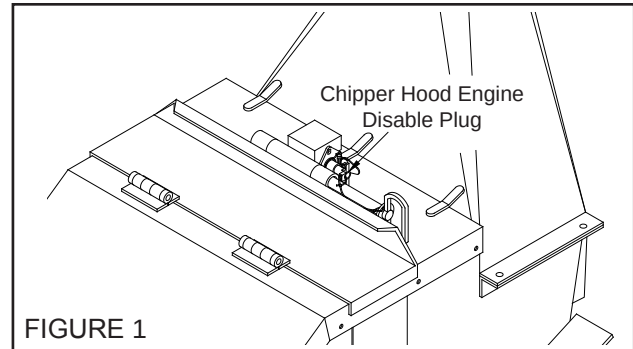
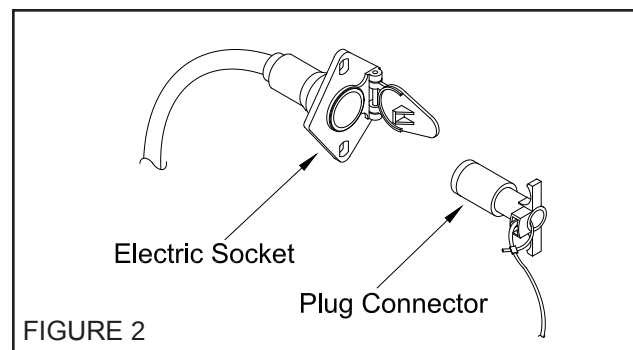
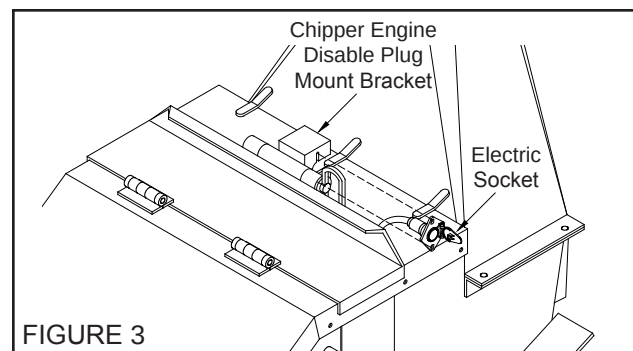

FIGURE 1
FIGURE 2
FIGURE 3
5. Make sure everyone is clear and then retract the clutch lock pin and then pull the clutch handle up to engage the winch clutch (see Figure 1). Make sure the handle is locked in position.
The chipper hood engine disable plug is located on top of the chipper hood (see figure 1). The chipper engine disable plug is made up of two parts: an electric socket and a plug connector (see figure 2). The electric socket is bolted to the chipper engine disable plug mount bracket (see figure 3) and the plug connector is attached by a cable to the hood pin (see figure 4).